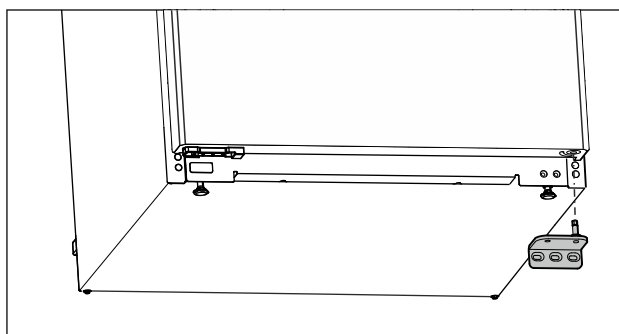

Fig. 13
- Remove the swap bearing block downwards. (see Fig. 13)